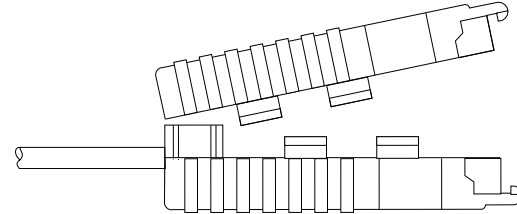

Figure 11. Connecting the Case Halves
10. TIP the top half of the case as necessary to place it over the strain relief assembly (see Figure 11, below). Do not snap the case together yet.